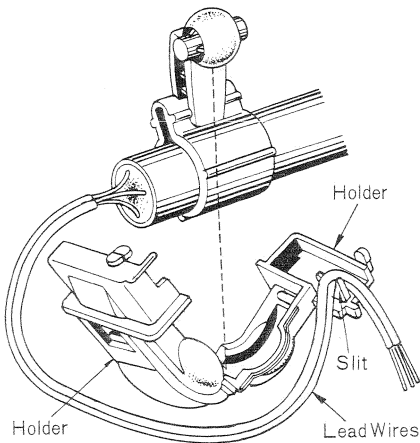

Fig. 15
1. Insert the lead wires in the slit of holder, as shown in fig. 15.